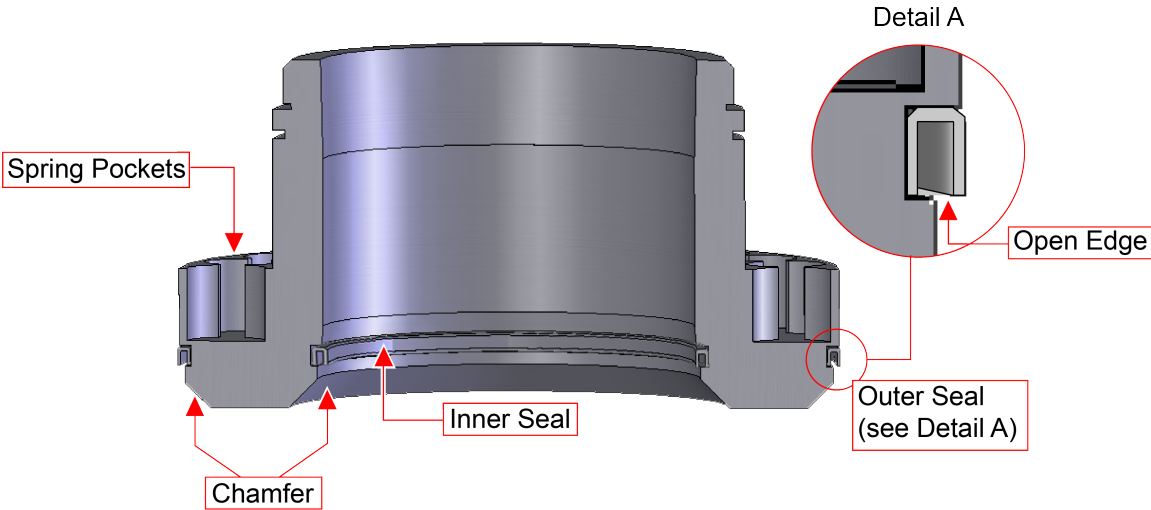

Figure 4-4: Cross-Section View of Piston Showing Seal Orientation
- Step 15: Press the new seals over the chamfer and into their respective grooves. Be sure to align the seals such that the open end (when looking at a cross section) is facing away from the collet, as shown in Figure 4-4. The direction of the seal is extremely important in sealing the piston. Make sure that the seals sit into their mounting grooves by running a fingernail around the edge. If the seal is tilted or twisted slightly its function will be severely compromised.